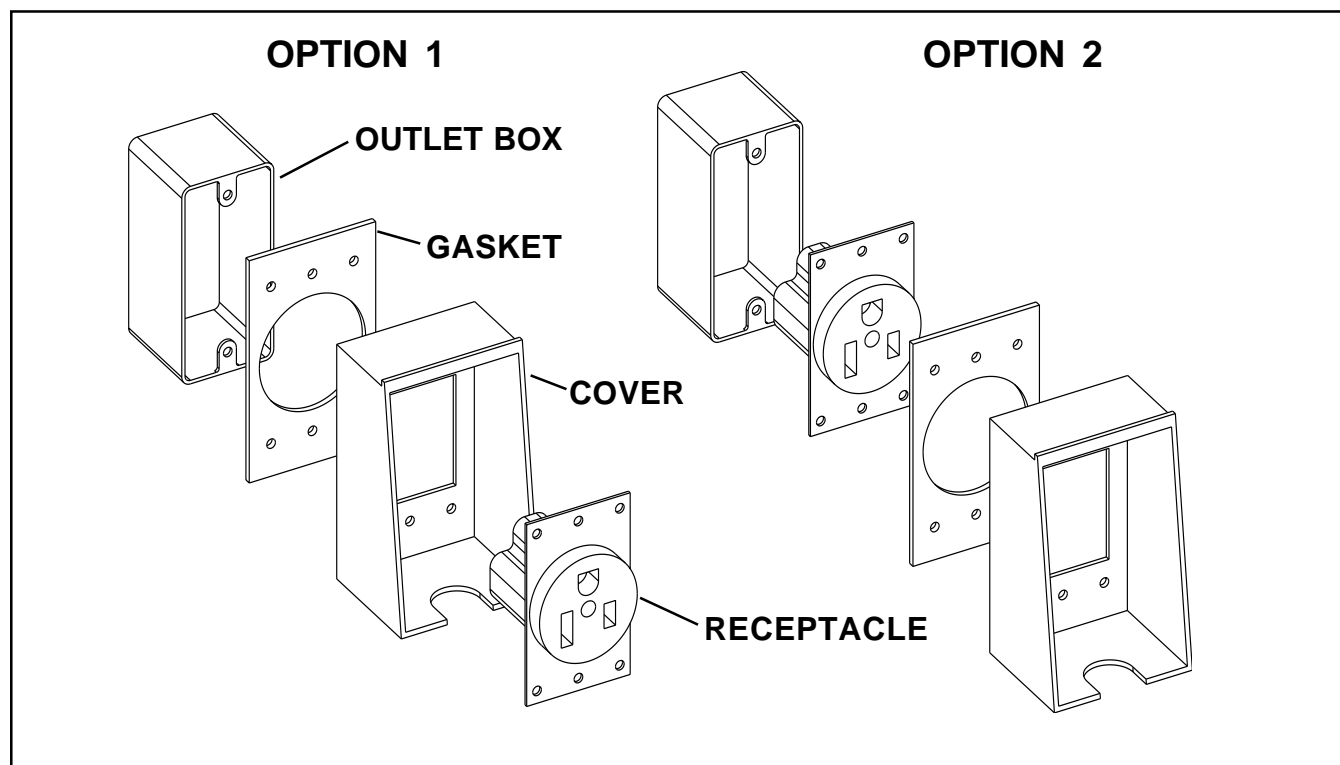

Figure 1. Mounting Options
**NOTE:** See Figure 1 for mounting options prior to wiring the receptacle. Cover and receptacle may be configured differently to meet installation needs.